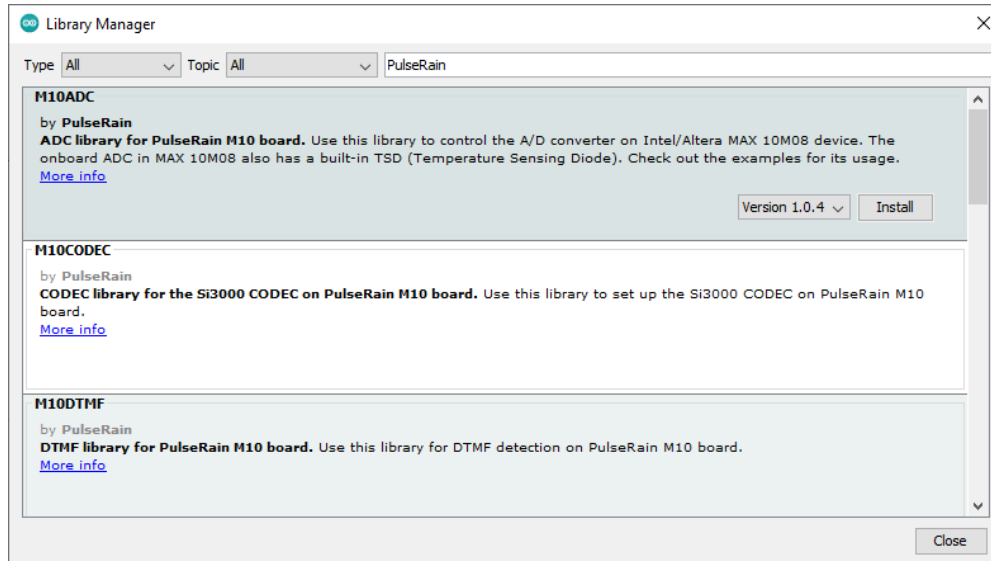

Figure 5-10 Arduino Library Manager
2. This menu will bring out a dialogue called Library Manager, as shown in Figure 5-10. And users can type in the library name in the search box to find the relevant ones.
After the issue is opened, Arduino representatives will verify the integrity of the GitHub Repository. If problems are found, they will notify the author and offer advices for correction. If the review is passed, the issue will be marked as Component: Board/Lib Manager, and another group of Arduino representatives will take over and add the new library to the Library Manger, so that this library can be found through the search box in Figure 5-10. In the meantime, the newly added library will be broadcasted on Twitter through @adduinoilibs.